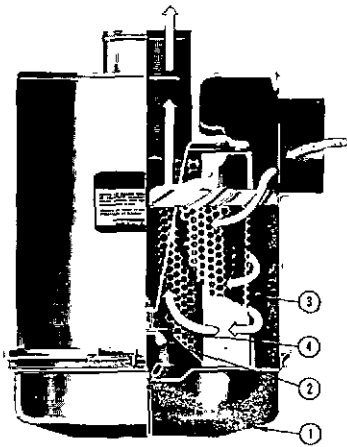

Fig. 5-7, V11005. Air cleaner - heavy duty
Heavy duty air cleaners (single and dual element) combine centrifugal cleaning with paper element filtering, Figs. 5-7 and 5-8, before air enters engine.
Dirty air enters through an opening in the side of the single or dual type, heavy duty cleaner body. On the single element type, air immediately travels through a ring of vanes around and thru the element and on into the engine. Fig. 5-7. Whereas, on a dual element type, air travels
1. Loosen wing bolt and clamp, remove dust cup (1, Fig. 5-7).
2. Unscrew wing nut (2) holding element (3) in position, remove element.
Note: Be sure gasket washer (4, Fig. 5-7) is in place under wing nut before tightening.